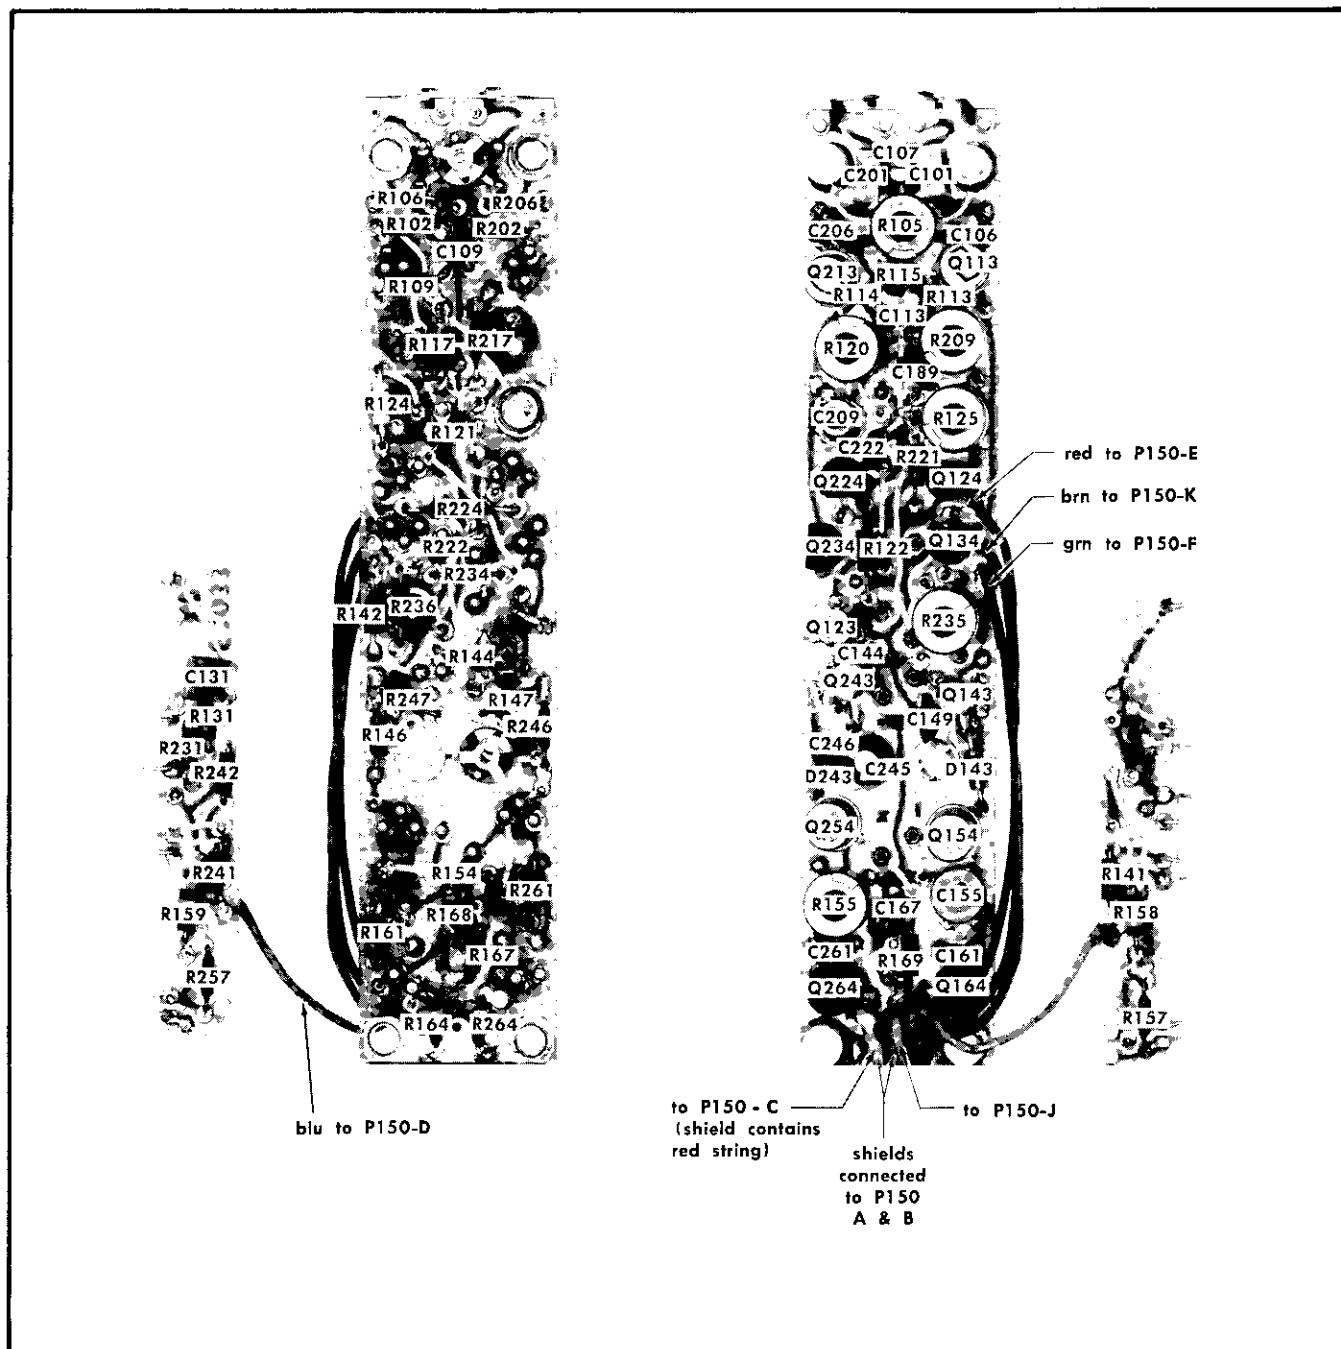

Fig. 4-6. P6046 Probe circuit board component locations.
Circuit board component layout and wire color code is shown in Fig. 4-6.
**Replacement.** Observe the color coding given in Fig. 4-6. The length of the cable shields between the cable and the circuit board must be kept as short as possible. The teflon heat-insulating sleeves must be in place over the insulation on the signal output leads before the shield wires are soldered to the board. The hexagonal nut which holds the strain relief boot should be located at the extreme end of the cable insulation, putting it approximately  $\frac{1}{32}$  inch from the large circuit board. Push the plastic cable clamp up against the nut assembly, matching the clamp notches with the keys on the nut assembly. Hold the nut assembly in place and screw on the strain relief boot assembly.
**Replacement.** Observe the color coding given in Fig. 4-6 when re-connecting wires. Keep the soldered connections neat. Re-assemble in reverse order, insuring that the notch in the contact assembly straddles the key located in the housing.